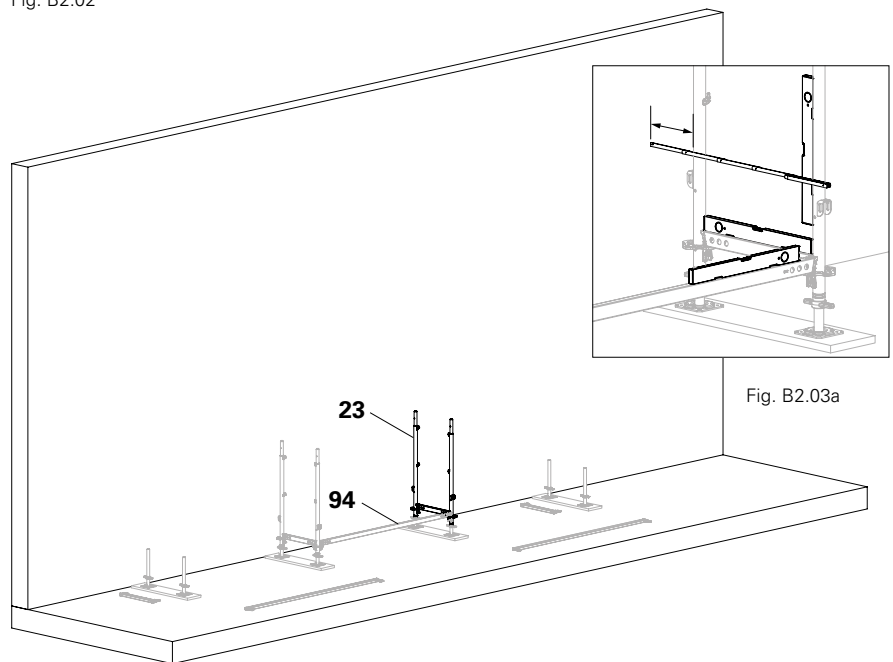

Fig. B2.03
- The base unit is installed. (Fig. B2.03)